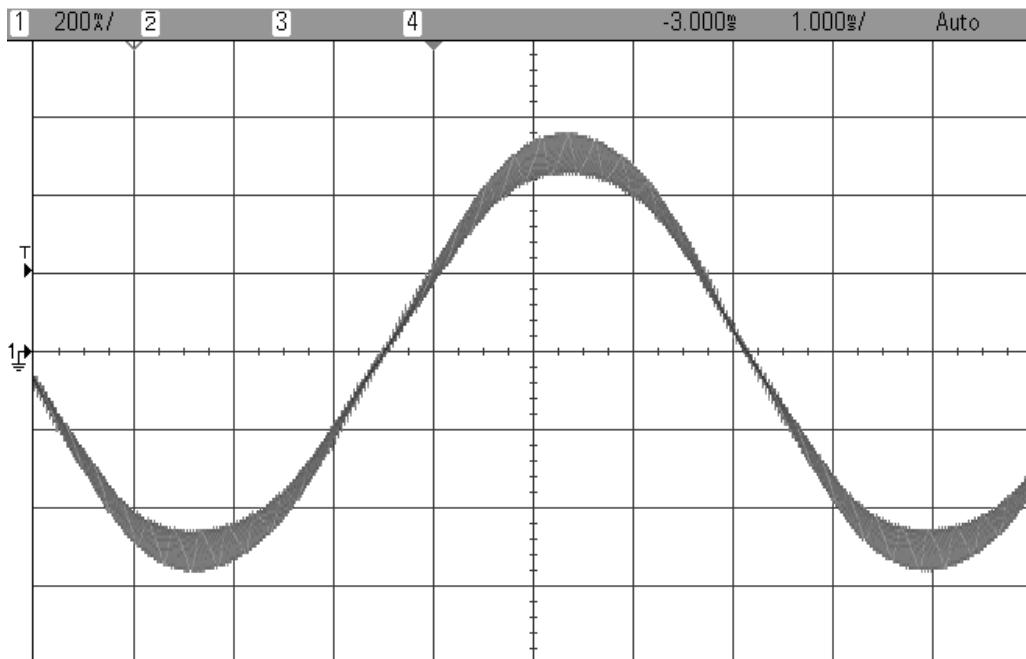
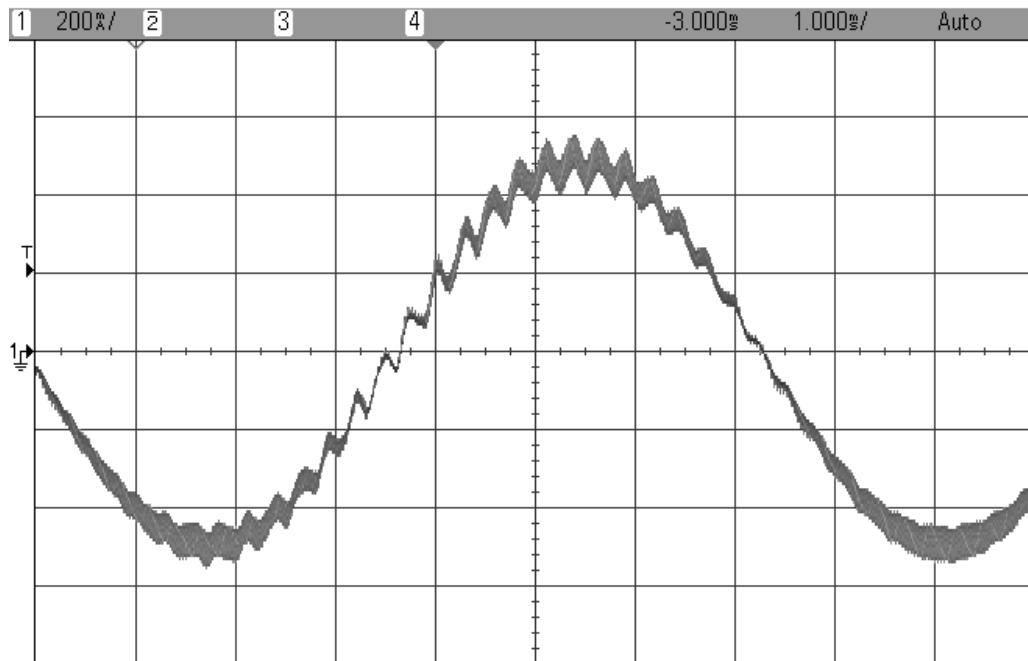

Figure 33: K_p^{series} setting that has been calculated at 1/20 of the bandwidth.
Figure 34: K_p^{series} setting that is too high resulting in the controller becoming unstable.
As the bandwidth gets wider, the sampling delay has more of a negative effect on the phase margin of the controller and causes the control loop to become unstable. Figure 33 is a plot of the motor current waveform with a stable K_p^{series} setting. **As the K_p^{series} is increased, the phase margin of the control loop becomes smaller. After a while the control loop is unstable and starts to oscillate** as shown in Figure 34. The current controller gain should not be set to this high of a value. **When a current loop instability occurs, lower the K_p^{series} gain until the current waveform is like the one in the following figure.**
- When the motor makes the high pitch noise, its current waveform looks like that in Figure 34.